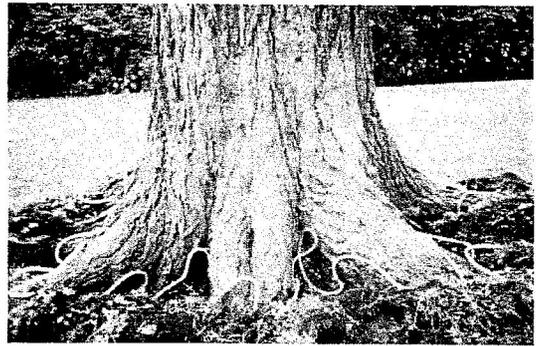

Fig. 1
- Determine how much root flare excavation is needed to make the infusion sites 4-8 inches below the crest of the root flare. (**Fig. 1**)